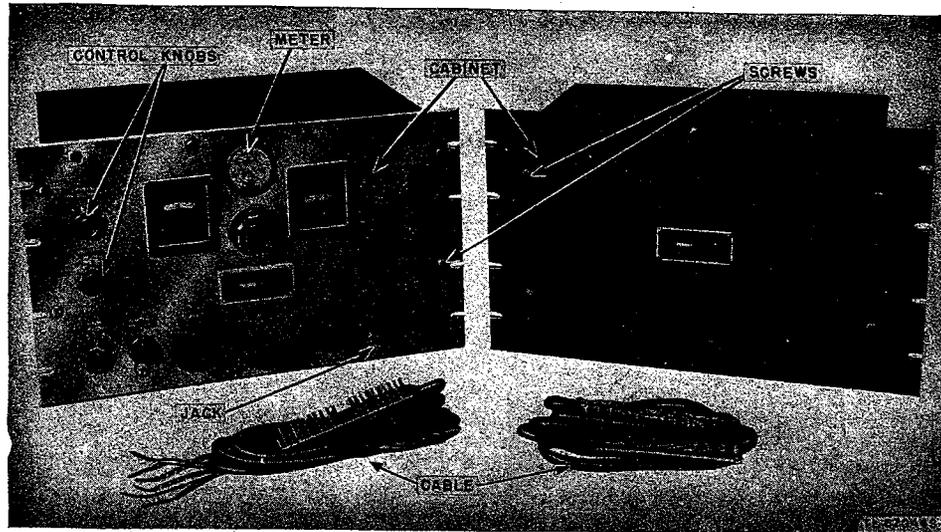

Figure 16. Radio receiver and power supply unit, typical preventive maintenance items, exterior view.
- Dry-cleaning solvent (SD)
**44. Item 1, Exterior of Receiver and Power Supply Unit (fig. 16)****OPERATIONS**